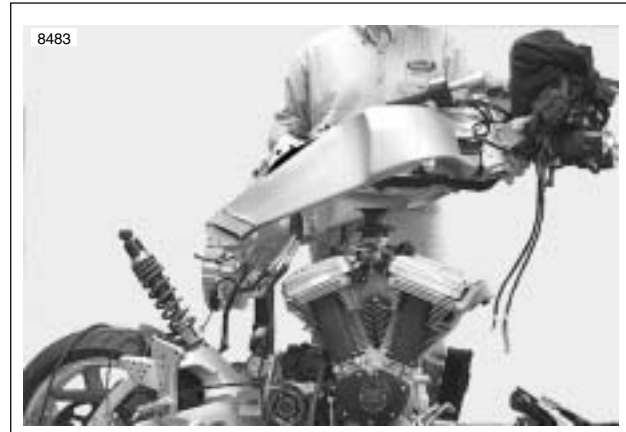

Figure 2-88. Lift Frame Off Motorcycle (Typical)
9. See Figure 2-88. Lift and remove frame from the motorcycle.